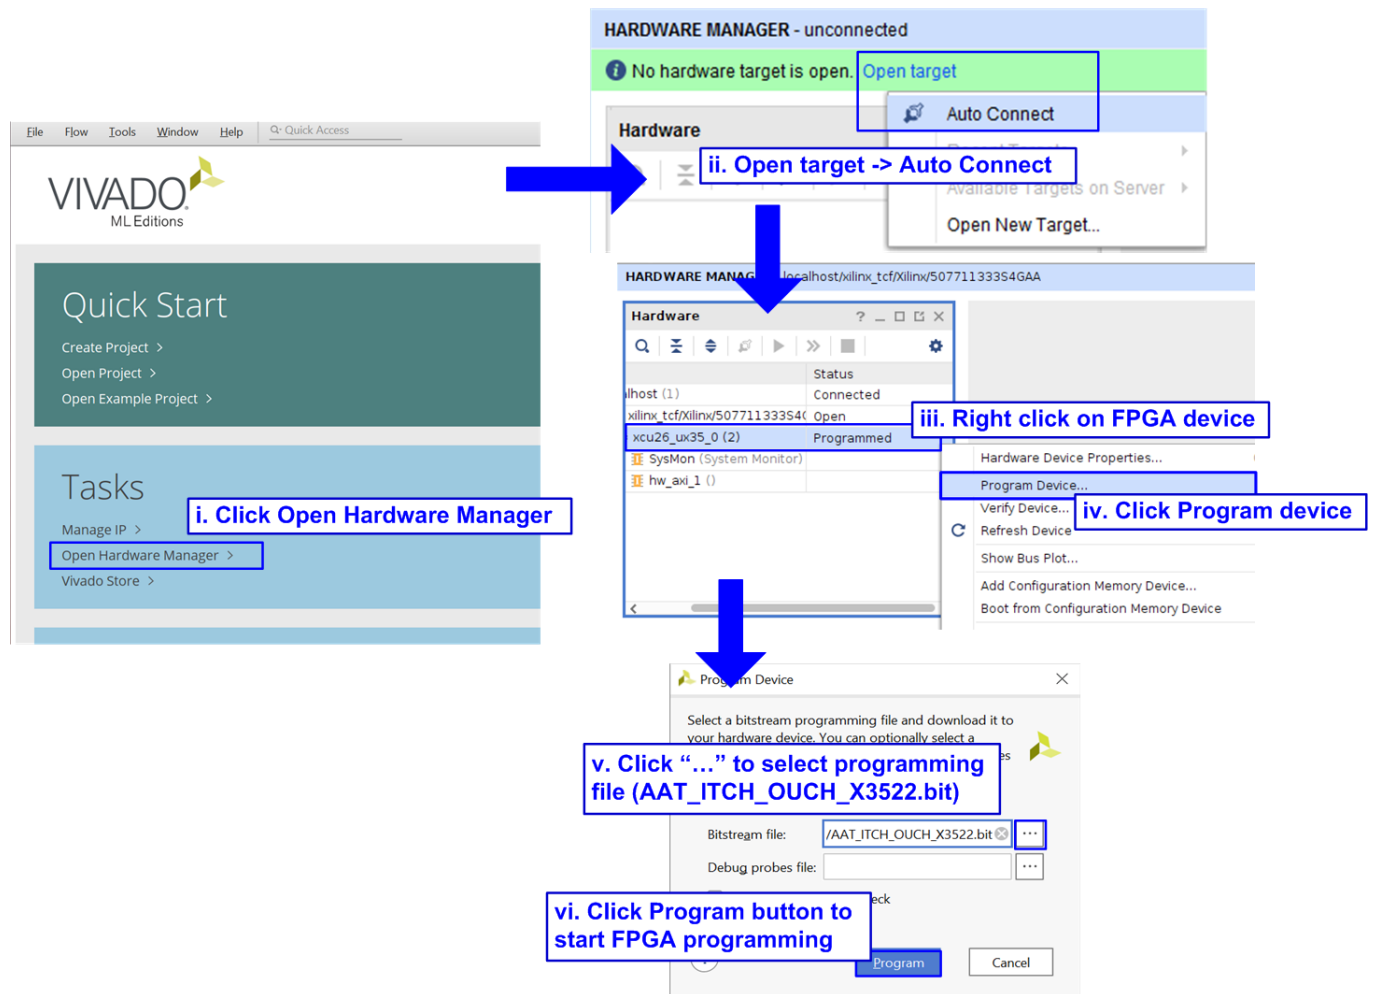

Figure 6 Program Alveo by Vivado Tool
- 3) Use the Vivado Hardware Manager to program the Alveo card with the required bitstream, as illustrated in Figure 6.